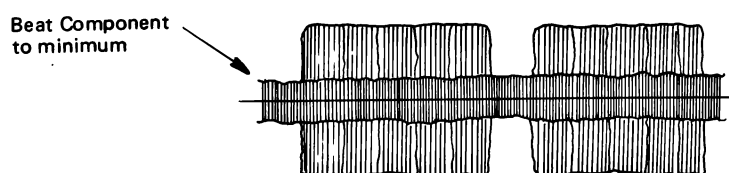

Fig. 34.
3. Adjust LM01 (Sound Trap) to minimize the 5.5 MHz beat Component. (Fig. 34)